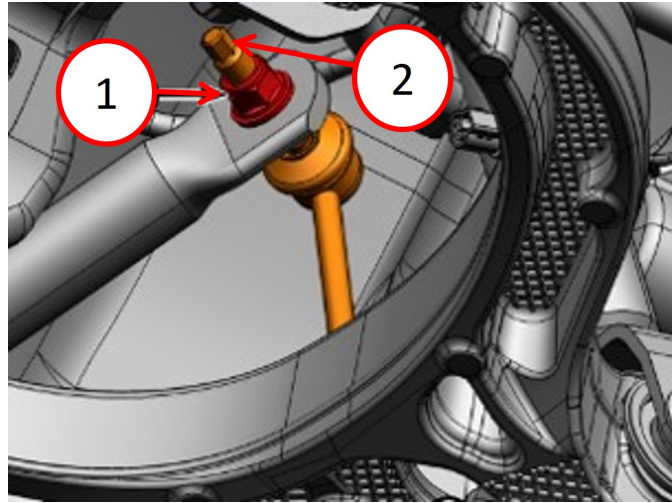

Fig. 1
2. Tighten **both the left and right** front stabilizer bar to end link joint nuts to 175 N·m (129 ft. lbs.) (Fig. 1) .
NOTE: Tighten the front stabilizer bar to end link joint by holding the hex stud tip on the ball joint (Fig. 1) and driving the nut in the tightening direction.